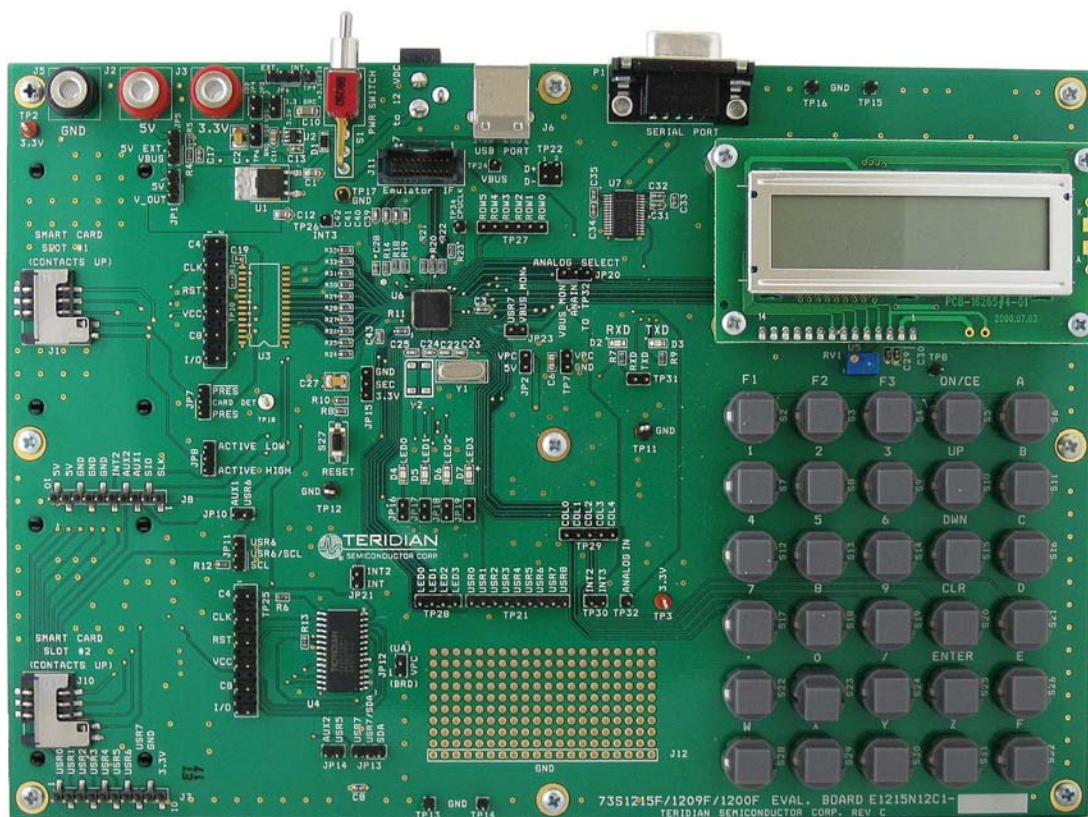

Figure 1: 73S1215F Evaluation Board
- 73S1215F Evaluation Board: 4-layer, rectangular PWB as shown in Figure 1 (identification number E1215N12C1 Rev C), containing the 73S1215F with the preloaded turnkey program USB CCID.
The 73S1215F Evaluation Board (see Figure 1) includes the following: